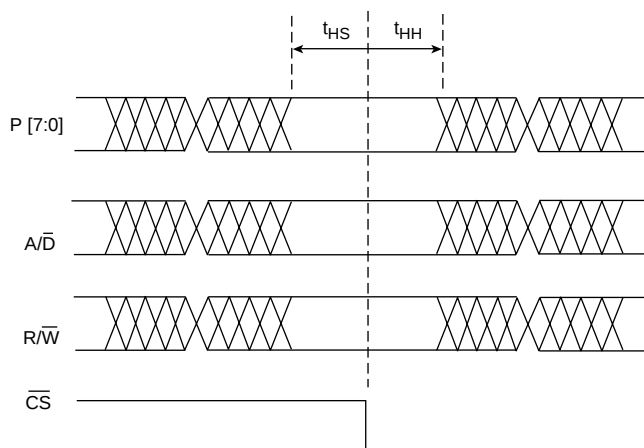

Fig. 14a HOSTIF Parallel Port Input Setup & Hold Times
- B) Signals are "strobed" into/out of the parallel port on the falling edge of the $\overline{CS}$ signal. Setup and hold times, as defined in the AC timing tables, are relative to this edge and must be met (see Figure 14a)